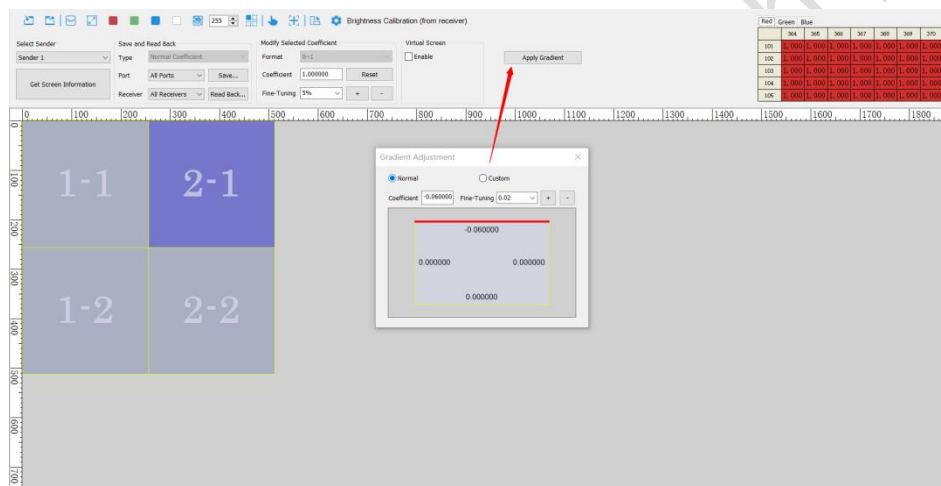

Fig 8.1.2.1 Set gradient adjustment coefficients
Step 4: Under **Gradient Adjustment**, enter the desired coefficient value. Click the **Apply Gradient** button to save the new coefficient values, as shown in Fig 8.1.2.1.